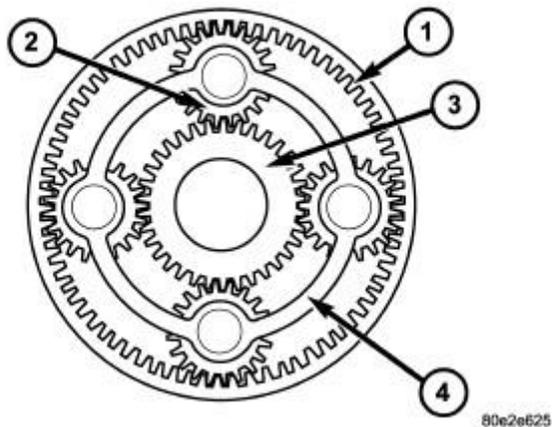

Fig. 165: Planetary Geartrain
The annulus gear (1) and sun gear (3) elements of a planetary gear system are alternately driven and braked by the actuating elements of the multi-plate clutch and multiple-disc brake. Refer to **Fig. 165**. The planetary pinion gears (2) can turn on the internal gearing of the annulus gear (1) and on the external gearing of the sun gear (3). This allows for a variety of gear ratios and the reversal of the rotation direction without the need for moving gear wheels or shift collars. When two components of the planetary gear set are locked together, the planetary gear set is locked and turns as a closed unit.